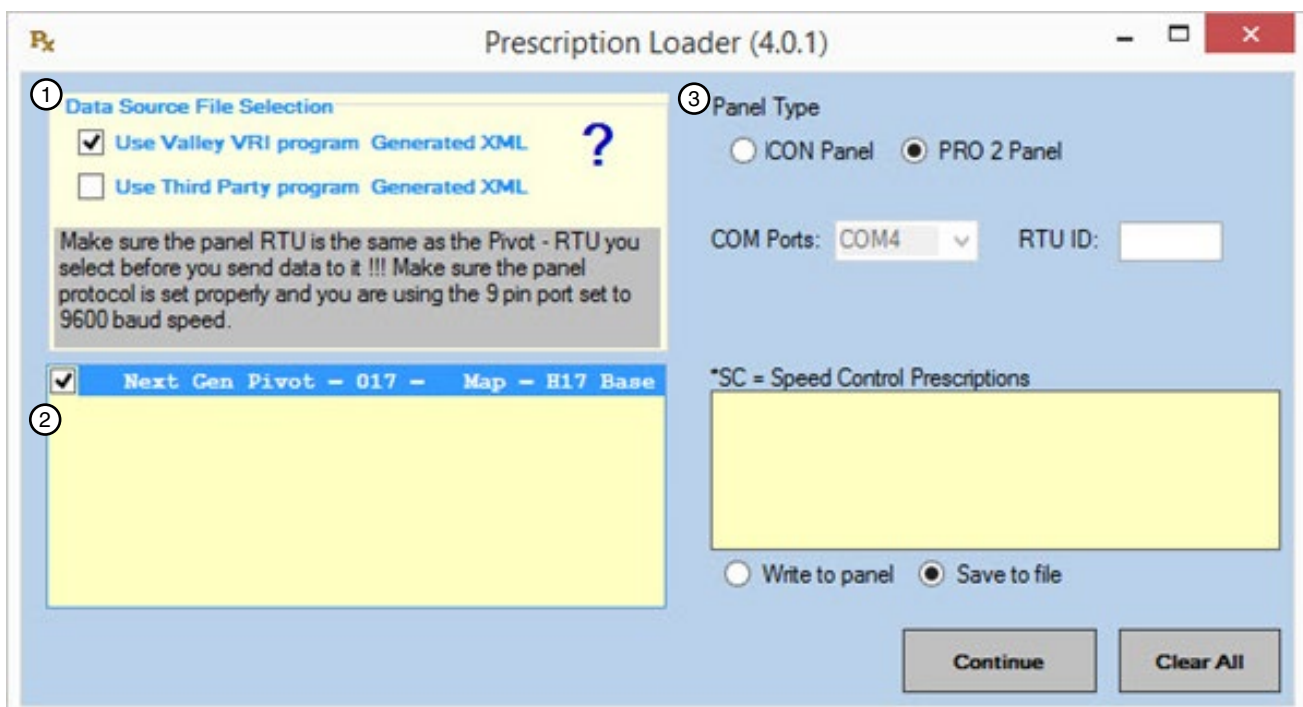

Figure 42-2 1. Data Source File Selection 2. Prescription Selection Section 3. Panel Type
The Prescription Loader screen appears. See Figure 42-2.
4. Select the prescription that is to be loaded or saved by clicking the appropriate checkbox. See Figure 42-2.
5. Select the Panel Type, either ICON or PRO 2 Panel (Pro2 , Select 2 or AutoPilot). This ensures the correct protocol type is Written to the panel or Saved to file. See Figure 42-2.